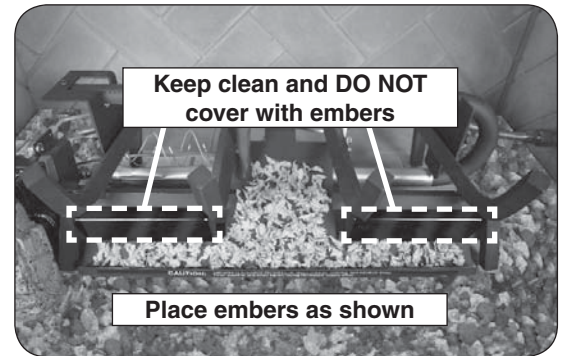

Fig. 16-2 Place glowing embers
1. Place the glowing embers evenly over the entire surface of the ember burner as shown in Fig. 16-2. **Break up any clumps that may have developed during shipment. Store unused embers for later use/replacement.**
Note: Ensure the porcelainized panels are clean of all dust. Use a clean soft cloth if necessary. See Fig 16-2.